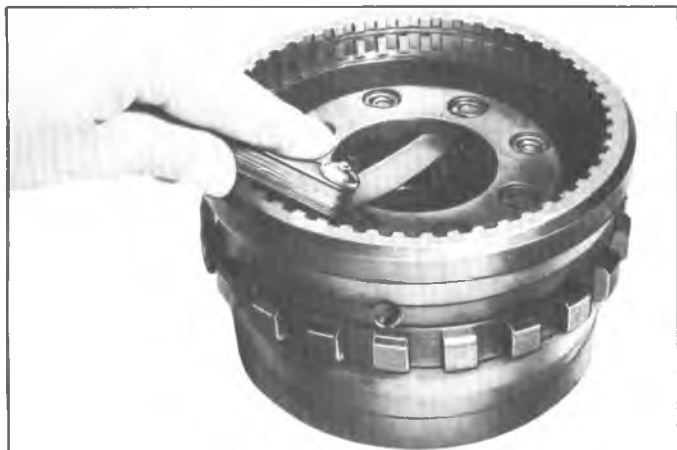

Fig. 106T-Checking Output Carrier Pinion End Play
11. Check pinion end play. Pinion end play should be .009"-.024" (fig. 106T).